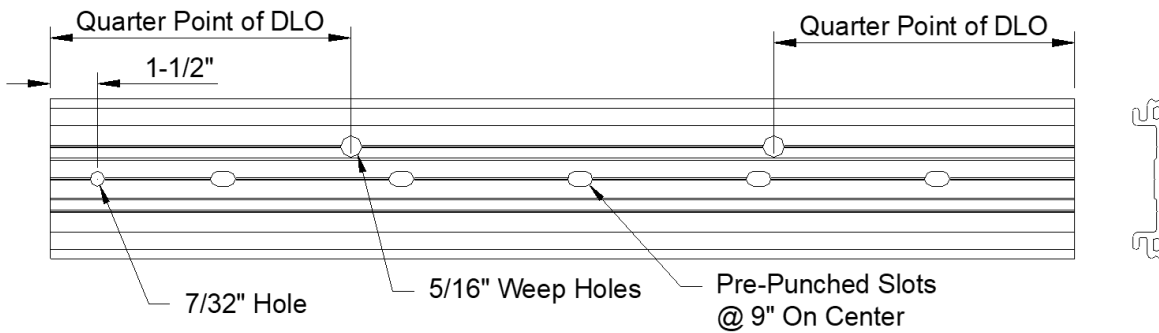

Figure 7: Pressure Plate Fabrication
- 4.3 All pressure plates have factory-punched holes for screws at 9" O.C. To ensure proper pressure on the glazing, 7/32" diameter holes may need to be drilled at the ends of each horizontal pressure plate as required. Locate at 1 1/2" maximum from the ends. **See FIGURE 7.**